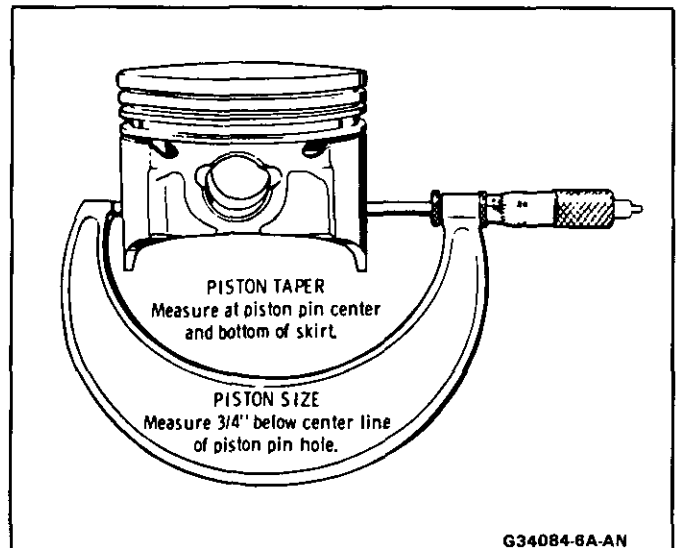

Figure 55 Measuring Piston
- b. Measure the cylinder bore diameter. When measuring piston for size or taper, measurement must be made as shown in Figure 55.